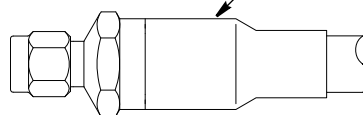

Figure 5
1. Position the shrink sleeve as shown in Figure 5.